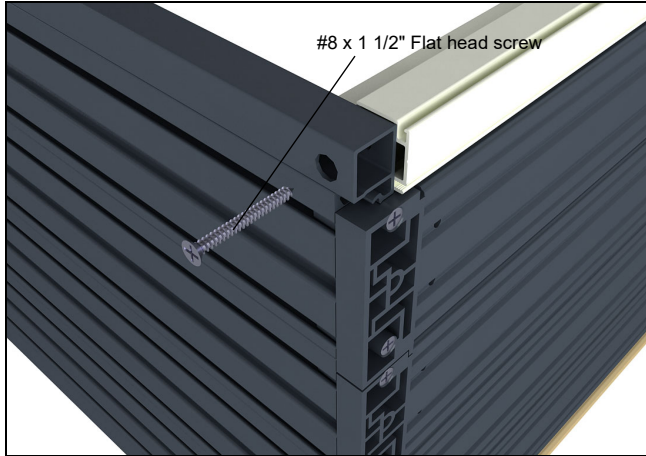

Figure 56
7. Fasten sill liner to frame cladding using #8 x 1 1/2" flat head screws. See figure 56. *Note: Ensure hole is lined up with screw boss in frame cladding.*